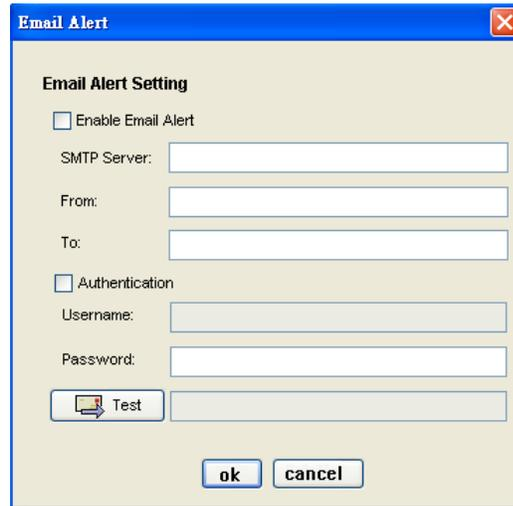

Figure 12-3
- Email: displays an “Email-Alert Settings” dialog box (see Figure 12-3). Fill the “SMTP server”, “From (email address)” and “To (email address)” fields. The “From” and “To” addresses must be valid in the SMTP server. If the SMTP server requires authentication, please enter the username and password. Once entering needed information, click the <Test> button to verify if your email works properly.